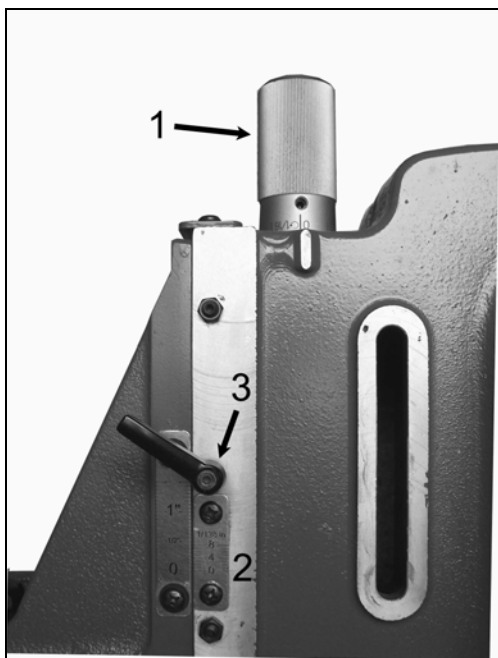

Figure 2
3. Both the right and left fences are micro-adjustable by turning the micro-adjust knobs (1, Figure 2). One revolution of the knob moves the fence 1/16". The definite position of the fence can be read off the scale (2, Figure 2) in increments as low as 1/128". Once the desired position is reached, Lock the fence into place using the locking levers (3, Figure 2).